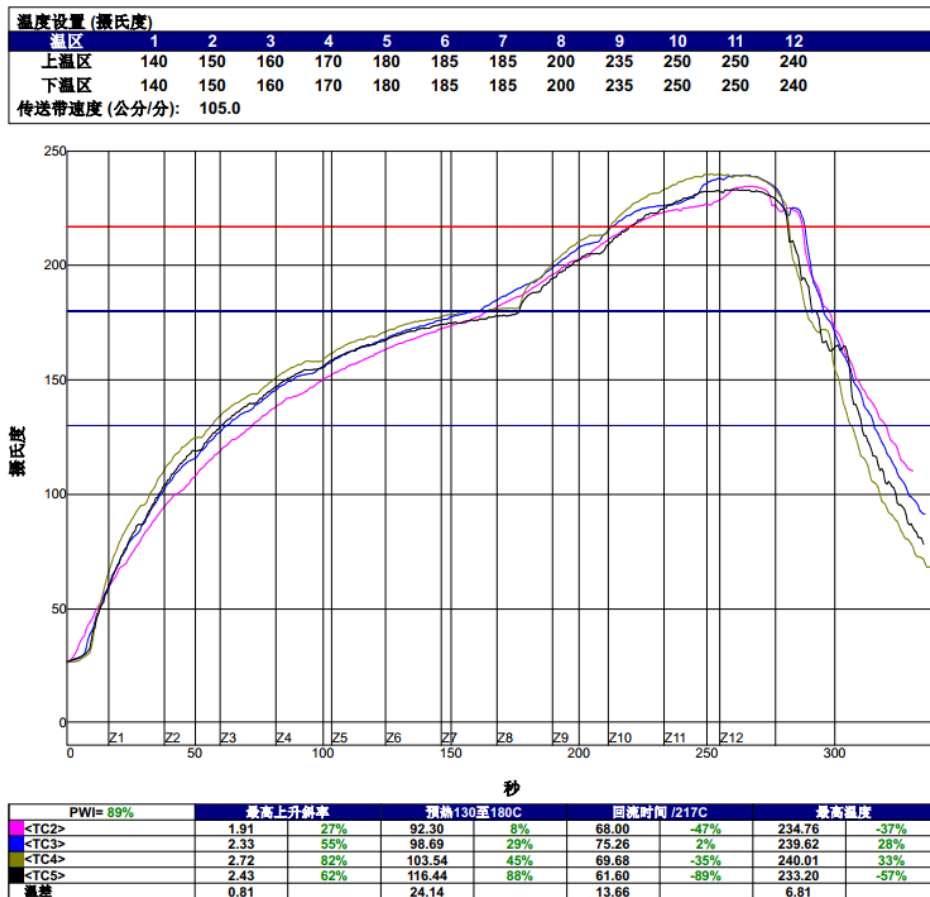

Figure 6.3 DWM1000 Module Solder Profile
It is recommended to use manual welding for UWB module welding to avoid internal device movement caused by improper temperature control and secondary reflow soldering, which may affect product performance. If reflow soldering production is necessary, the recommended maximum reflow soldering temperature is 235-246 Celsius degree, and the maximum temperature cannot exceed 246 Celsius degree. The furnace temperature curve (lead-free SMT flow welding) and related parameters of the DWM1000 module during manufacturing are shown in Figure 6.3. The production suggestions are as follows, please read carefully:
- 1) It is recommended that the temperature of Reflow soldering should not exceed the temperature as shown in Fig. 6.3. It is recommended to reduce the overall curve by about 5 degrees. In summer, the temperature can be reduced appropriately;